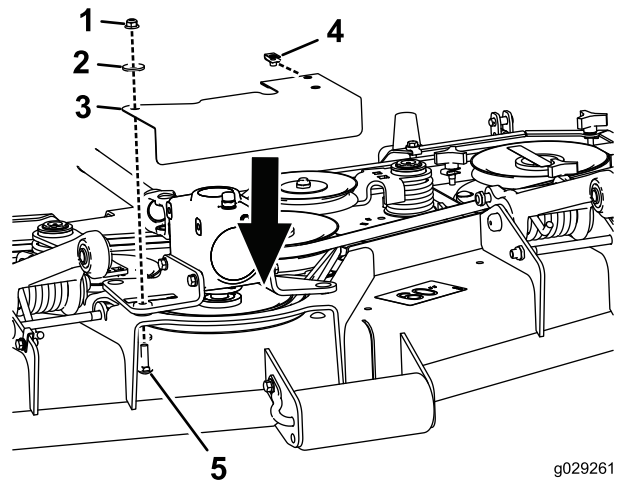

Figure 5
2. Using the nuts removed in the previous step, mount the pulley shield to the gear box mounting brackets (Figure 5).